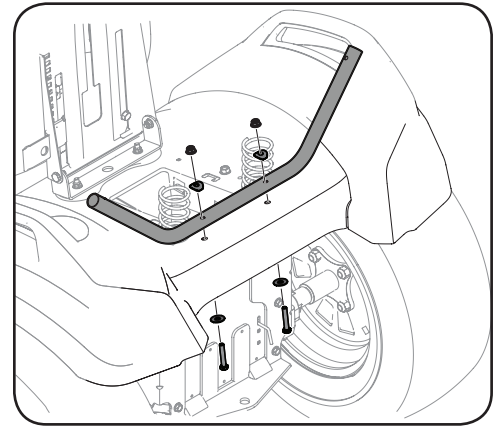

Figure 3-5
5. Use two flange lock nuts (#10), two saddle washers (#9), two flat washers (#14) and two hex screws (#13) to mount the rear support (#1) to the frame of the tractor as shown in Figure 3-5.